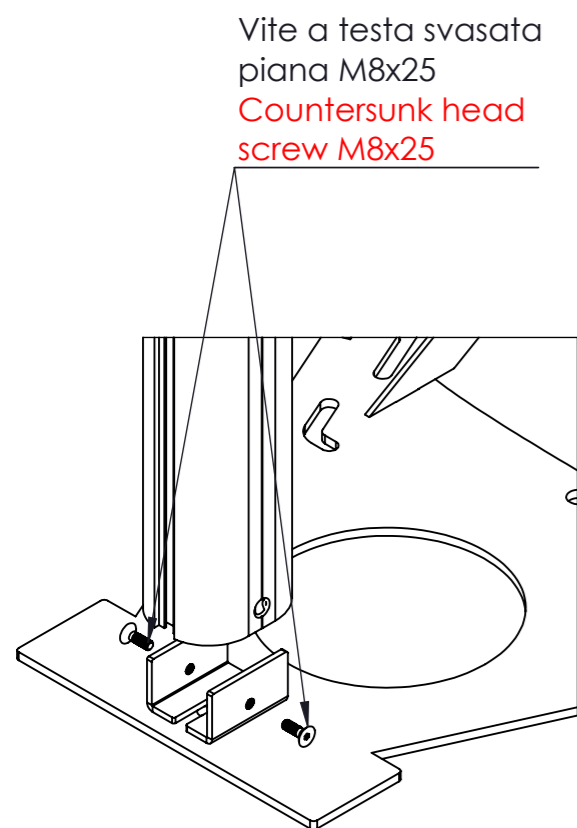

FIG. 1
1. Secure the post to the base by fully tightening the two M8x25 countersunk screws (see Figure 1).